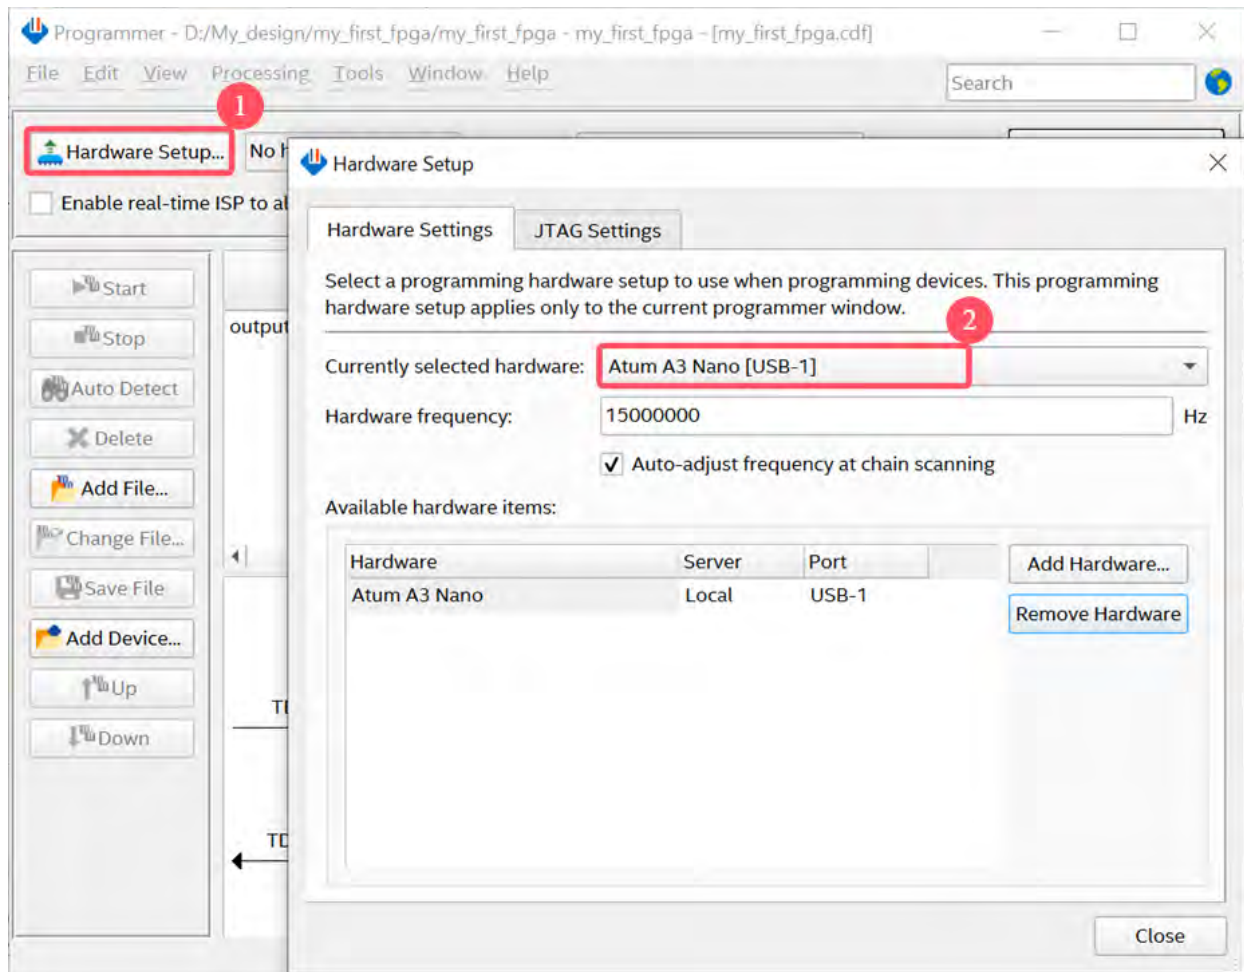

Figure 4-5 Hardware Setup
4. Select **Atum A3 Nano[USB-1]** under **Currently selected hardware**, and click **Close** as shown in **Figure 4-5**.